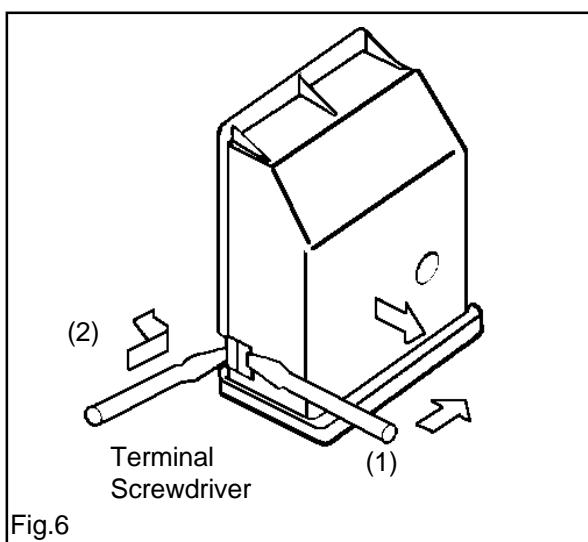

Fig.6
- Prise cover loose using screwdriver in position (1) then lever off with screwdriver in position (2) at either side. See Fig. 6.